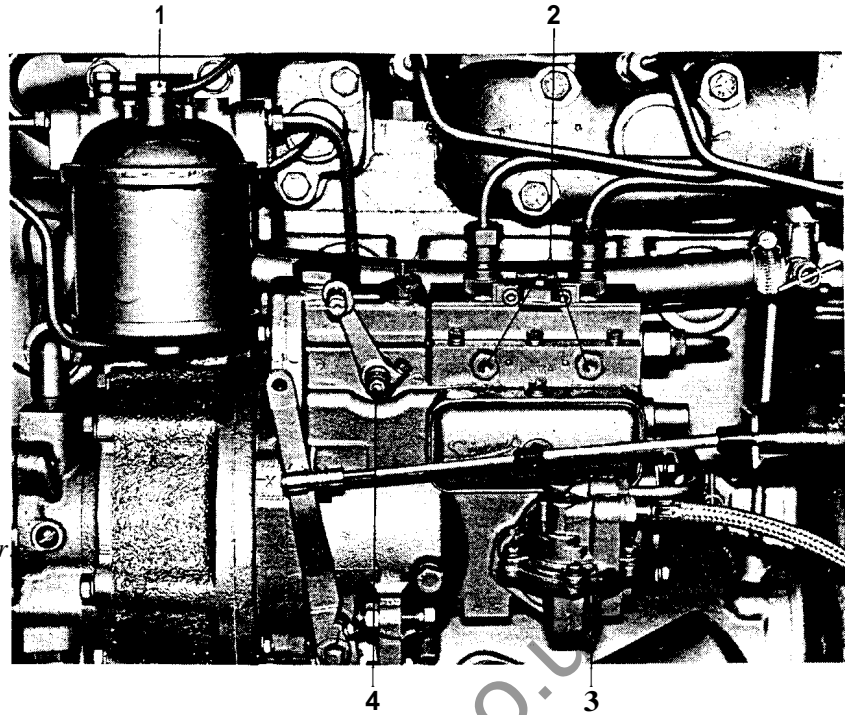
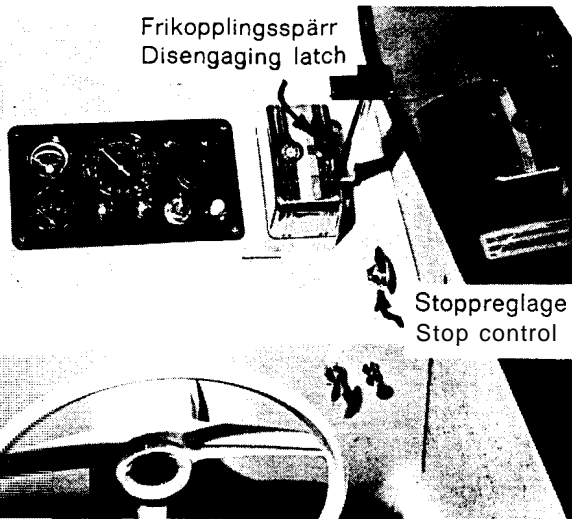
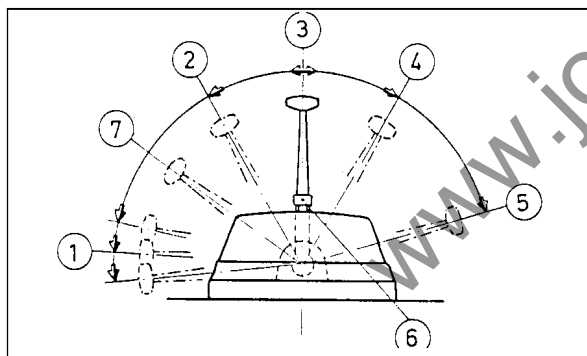

Fig. 17. fuel injection pump and fuel filter
Fig. 19. Control position with instruments, control lever and wheel.
Fig. 21. Teleflex controls.
8. When the engine is tested before delivery the fuel system is bled free of air. It would be wise to do this again before the first start. It is important to know how to bleed the fuel system in case you happen to get air in the system while away cruising. This can happen if the fuel level is too low and the boat is rolling heavily. Try not to allow the fuel level to fall below 10 to 15 litres. The bleeding is performed as follows (fig. 17): The fuel is pumped using the manual pumping lever. With long strokes at least 30 vertical movements will be necessary. Then slacken the nipple bolt for the return oil line to the fuel tank. This is fitted on top of the fuel filter. Continue pumping until fuel free from air bubbles flows out. Close the bolt. Open the front bleed screw on the fuel injection pump. Now pump again with the pumping lever until fuel free from air bubbles flows out. Close the bleed screw.
- Check that the stop control is pushed in (fig. 19).
- Disengage the control lever with the disengaging latch (fig. 19) and move the control lever ahead to the starting position (position 7 in fig. 21).
7. Move the control lever back to neutral when the engine is running evenly (position 3 in fig. 21).
NOTE: If the engine is difficult to start in cold weather the cold weather starting button on the fuel injection pump should be pushed in. This will supply a richer starting mixture. Set the control lever at the starting position (position 7, fig. 21) then push the cold weather starting button. It will remain in until it automatically releases when the engine starts. The position of the button is shown in fig. 17. With a little effort it is possible to reach the button through the inspection hole in the engine cover.